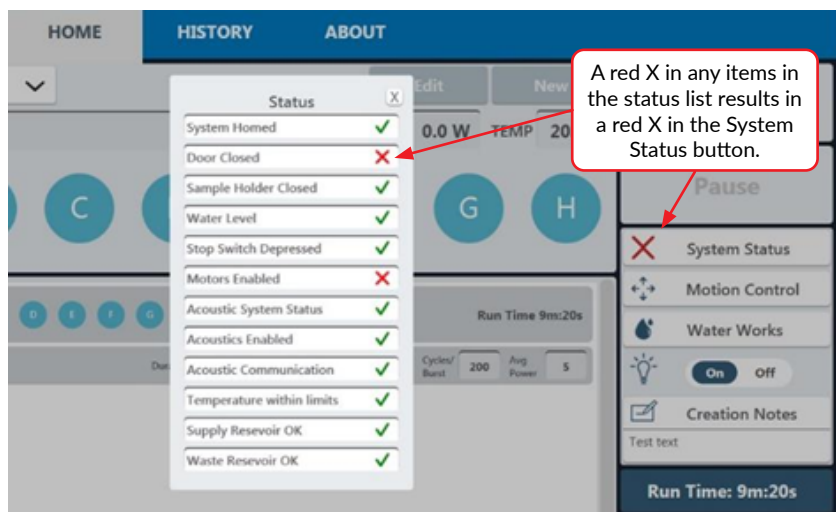

Figure 3.6 Instrument Status Panel: Door Opened Resulting in Motors Disabled
If any of the items in the Status list display (X), a red X will also be displayed in the System Status button, as shown in **Figure 3.6**.